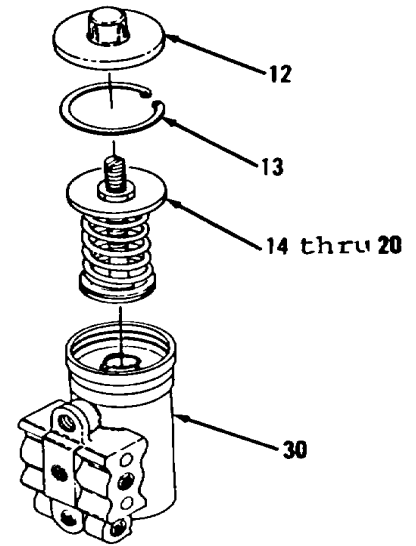
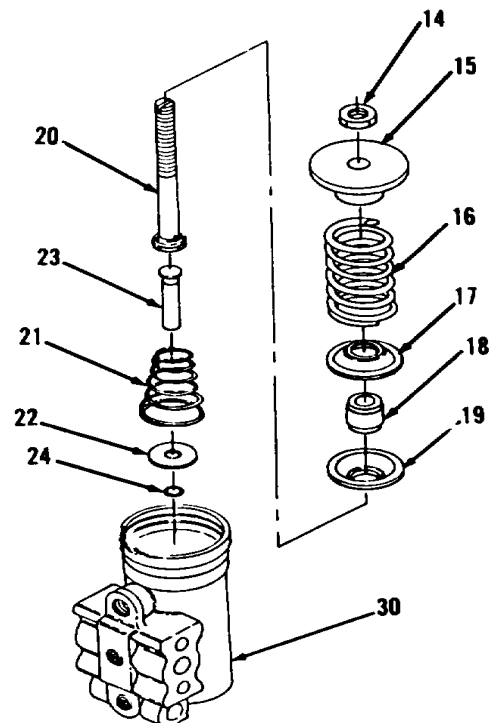
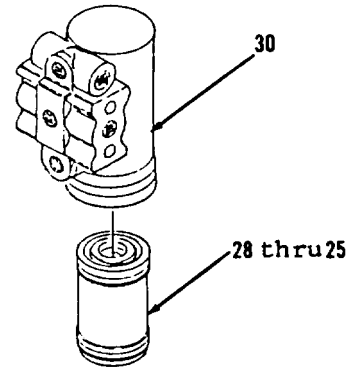

Figure 6-59.
Figure 6-60.
Figure 6-61.
1. Remove cover (12) and retaining ring (13, Figure 6-59).
2. Remove items 14 thru 20 as an assembly from air compressor governor (30).
3. Remove lock nut (14) from screw (20, Figure 6-60).
4. Remove seat (15).
5. Remove spring (16), seat (17), guide (18), seat (19) and screw (20).
6. Remove spring (21), washer (22) and stem (23) from air compressor governor (30).
7. Remove and discard grommet (24).
8. Turn air compressor governor (30, Figure 6-61) upside down and tap slightly.
9. Remove items 25 thru 28 as an assembly from air compressor governor (30).
7. Install items 28 thru 25 as an assembly in air compressor governor (30, Figure 6-61).